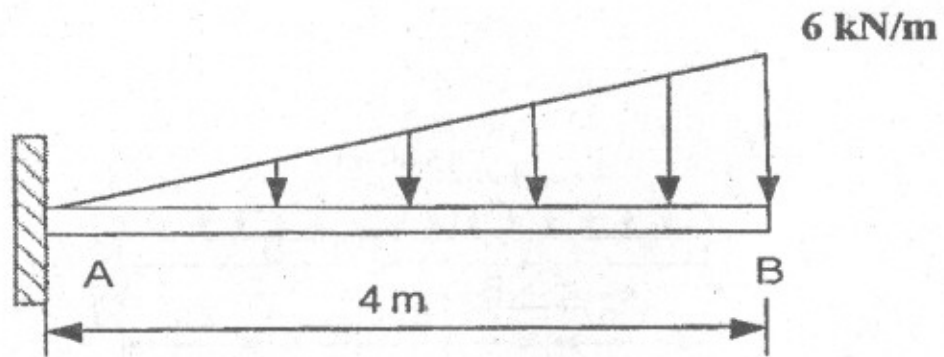

Fig. 5
4. (a) Plot the shear force and bending moment diagrams for the cantilever beam loaded as shown in Fig. 5 : [8]